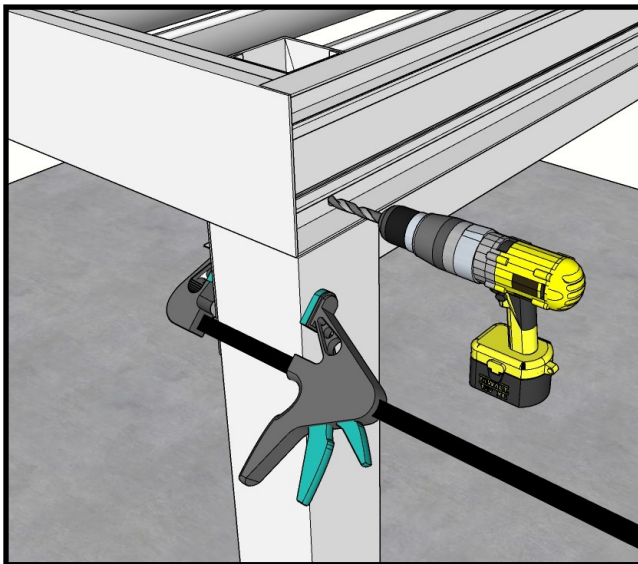

Fig 10
8. Drill two 7/16" dia holes through to the back side of the posts. (see fig 10)